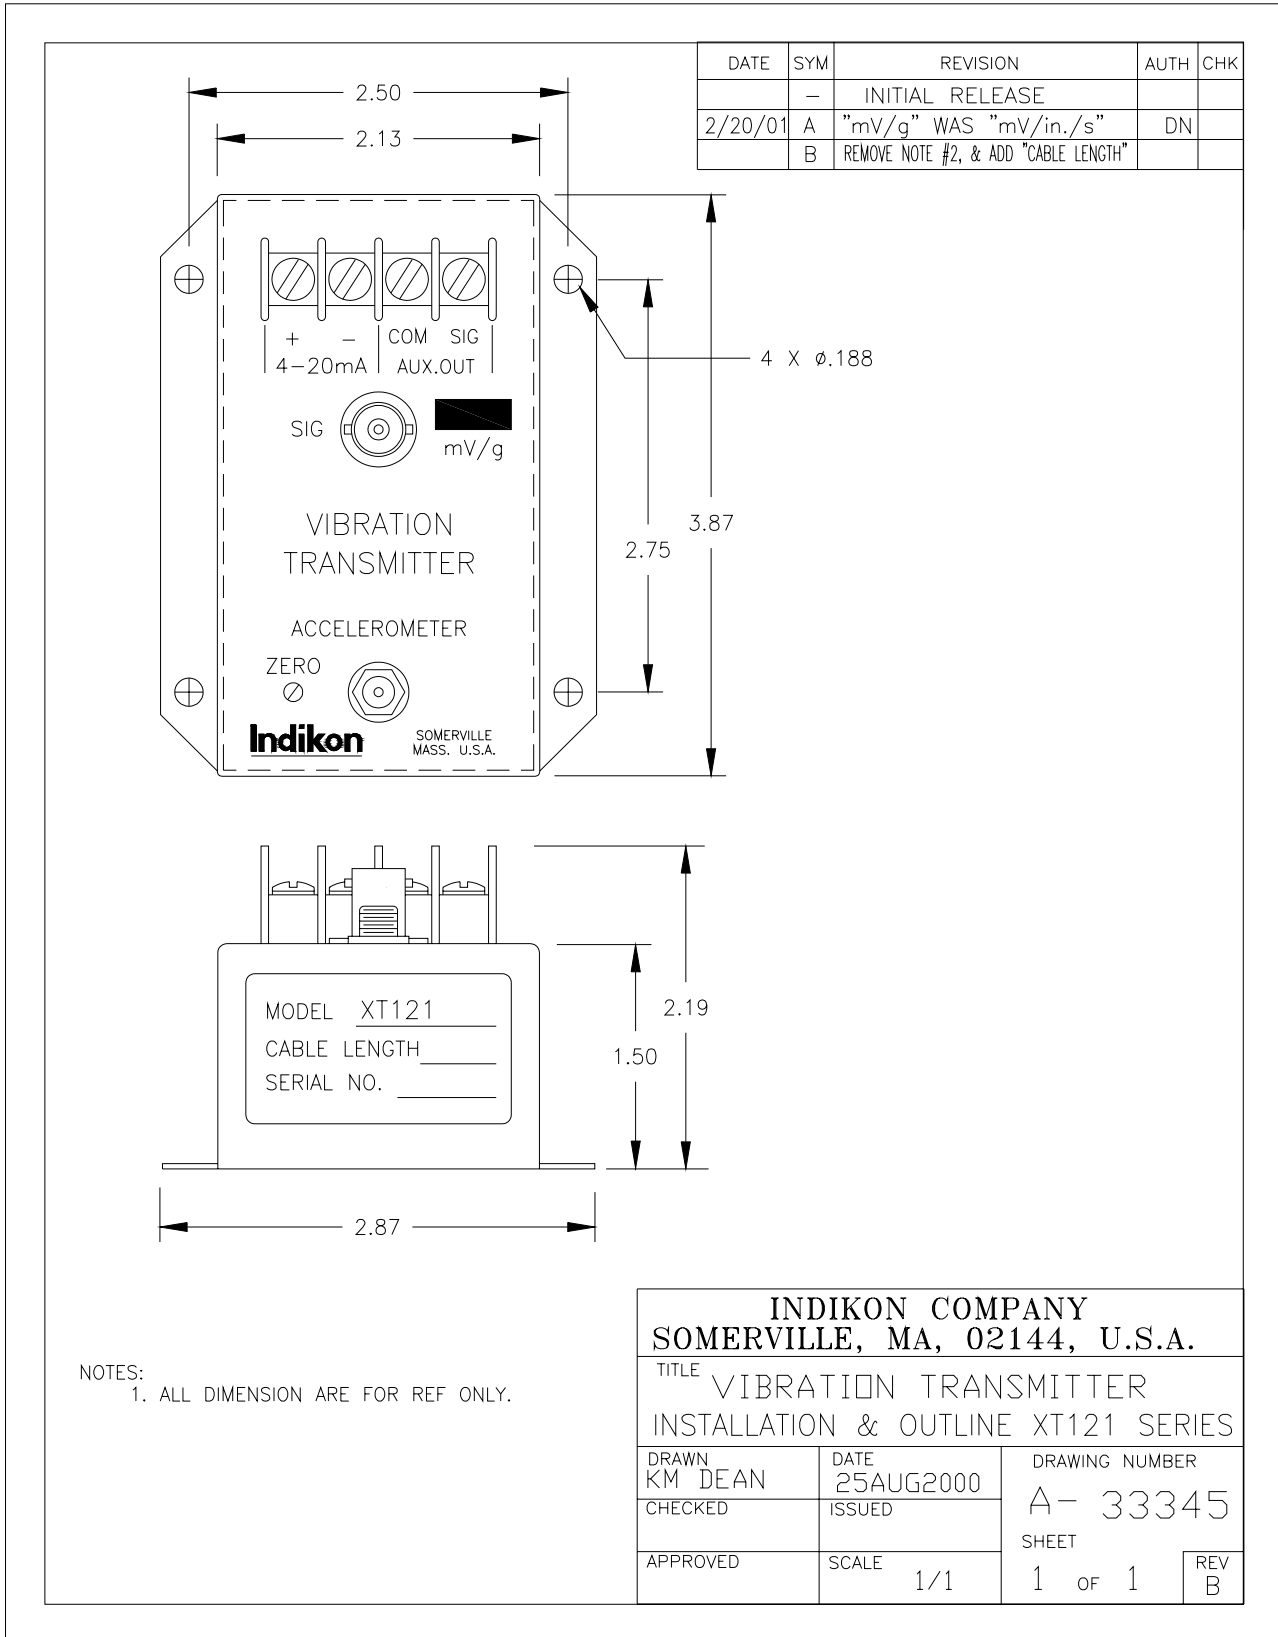

Figure 1
- Velocity Transmitter -Installation & Outline A-33345 (Figure 1)